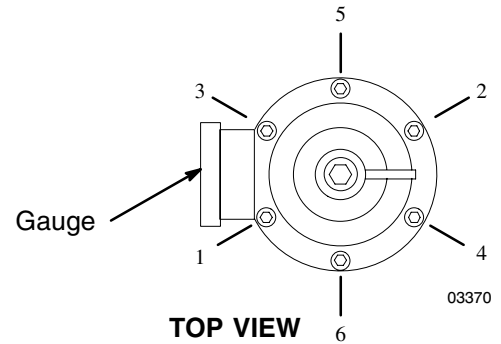

Fig. 3
Before installing the regulator, check the tightness of the screws (1). Refer to Fig. 3 for the tightening sequence and the torque value. If the regulator leaks during operation, check and torque the screws again.
1. Using the hex end of key (25), adjust screw (20) all the way counterclockwise to relieve regulator spring tension.
2. Remove outlet bushing (15) and counter-balance spring (29) (Model 204500 only) from the body.
3. Unscrew valve stem (27) from diaphragm hanger (28) with adjusting key. See Fig. 3.
4. Remove screws (1), regulator cap (17), spring adjusting screw (20), spring (13), and spring cap (30) (Model 204500 only).
5. Lift diaphragm (31) and hanger from body. Disassemble the hanger and diaphragm only if damaged.
6. Unscrew valve seat (26) from body with a 9/16" socket wrench. See Fig. 3.
The hanger should be in line with one set of holes and the nut should be torqued to 20 ft-lb (27 N•m). Turn the valve stem snugly against the seat and then back off 1/2 turn on model 204500 and 3/4 turn on other models to set valve clearance. When installing the cap (17), line up finger of spring adjusting nut (12) with the groove in the cap (17). Torque the six screws (1) evenly to 120–130 in-lb (13.6–14.7 N•m) three times consecutively, in the order shown in the **TOP VIEW**, to compensate for diaphragm relaxation. See Fig. 3.
△₁ See torque sequence in Fig. 3.